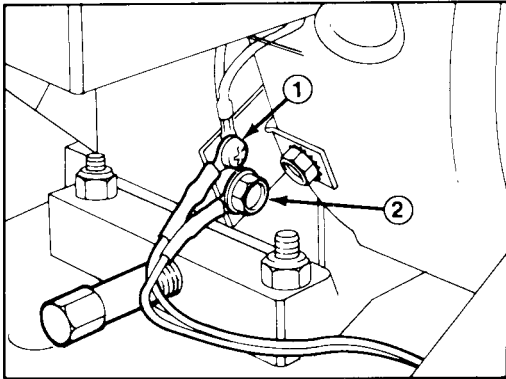

Figure 9
1. Remove phillips head screw and wire from engine bracket, install wire with smaller I.D. hole and reassemble to engine bracket (Fig. 9).
2. Insert flange head capscrew through large I.D. hole in remaining wire and install in lower hole in engine bracket (Fig. 9).